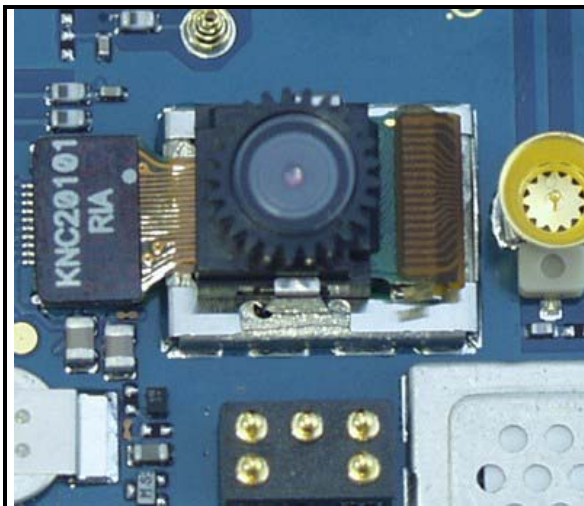

Fig. 12.1
- Check if the camera module (*Fig. 12.1*) is working properly; verify the viewfinder functionality in the LCD. Check if there are black spots and if the picture is in focus. Replace the camera module if necessary.